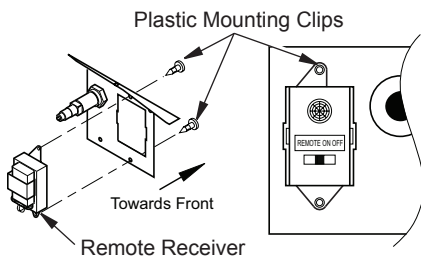

Figure 45 - Mounting Remote Receiver to Bracket
6. Use the clips to mount the receiver on remote mounting bracket as shown in Figure 45.